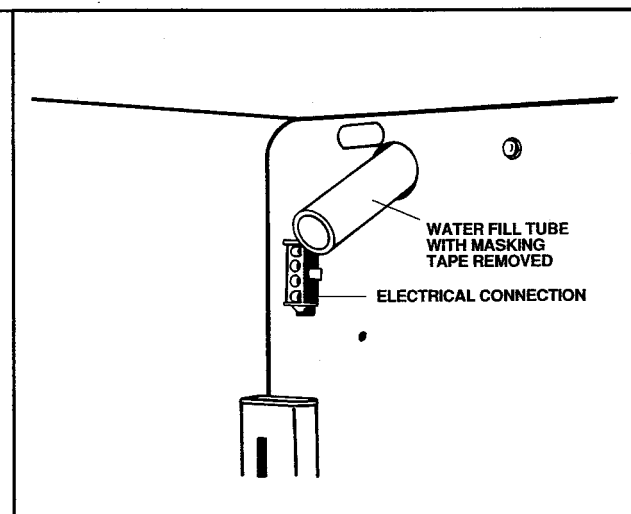

Figure 11
- a. From inside the freezer compartment, pull the water fill tube through the hole in the interior rear wall. See Figure 11.